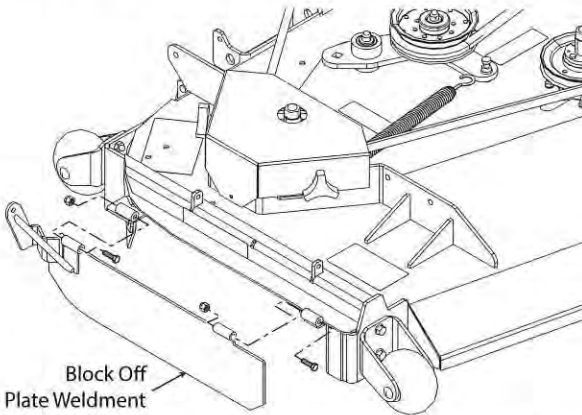

Figure 3-11. Block Off Plate Weldment Installation
15. Install the block off plate weldment to the front and rear hinge brackets using two (2) 5/16-18 x 3-1/2" bolts and two (2) 5/16-18 elastic stop nuts. See Figure 3-11. Do not tighten the bolts completely. Secure the hardware so the block off plate weldment moves freely.